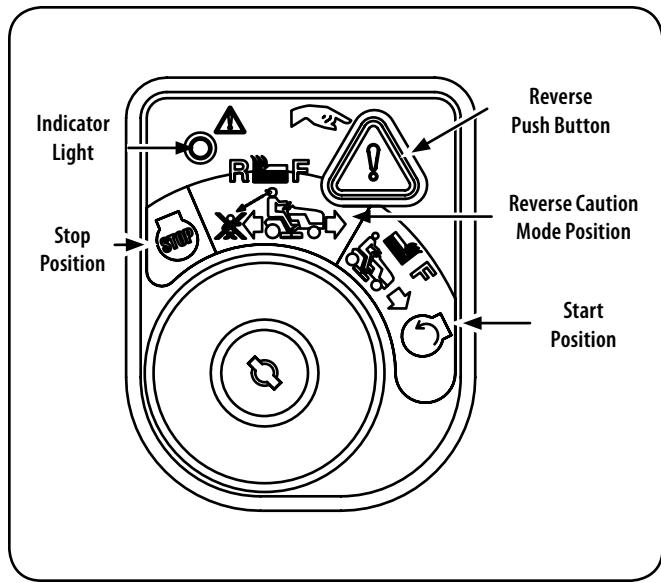

Figure 8
2. Turn the key from the NORMAL MOWING  (Green) position to the REVERSE CAUTION MODE  (Yellow) position of the key switch module. See Figure 8.
3. Press the REVERSE PUSH BUTTON  (Orange, Triangular Button) at the top, right corner of the key switch module. The red indicator light at the top, left corner of the key switch module will be ON while activated. See Figure 8.